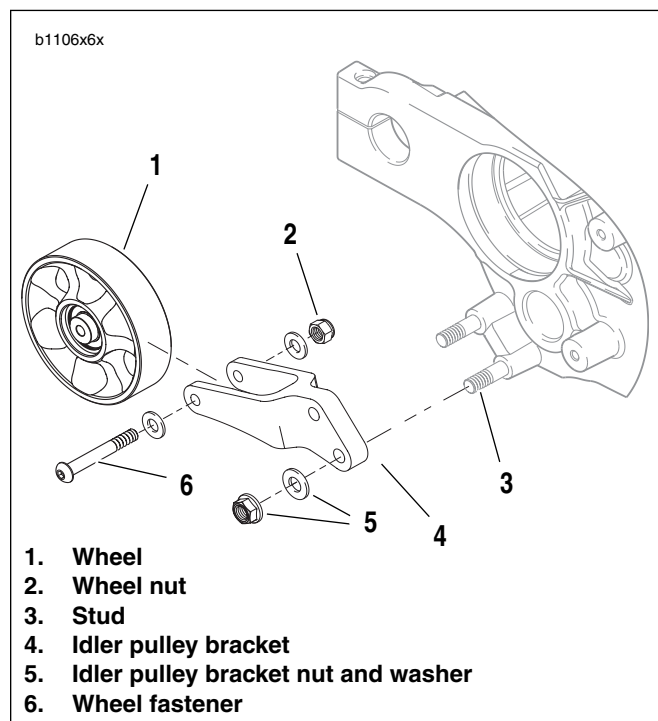

Figure 6-44. Idler Pulley Assembly
5. See Figure 6-44. Remove idler pulley bracket nuts and washers (5) from studs (3).
6. Slide idler pulley bracket (4) off studs (3).
7. See Figure 6-44. Inspect pulley by spinning wheel (1) and checking for wheel bearing wear. See INSPECTION under 1.10 DRIVE BELT.
8. If pulley wheel needs replacement, remove fastener (6), washer and nut (2) from idler pulley bracket (4) and discard wheel. Replace with **new** pulley wheel (1).
1. See Figure 6-44. Install new or existing pulley wheel (1), if removed, and tighten washer and nut (2) wheel fastener (6) to 20-23 ft-lbs (27.1-31.2 Nm).
2. Slide idler pulley bracket (4), washer and nuts (5) on to studs (3) and tighten to 33-35 ft-lbs (45-47 Nm). sssss-See DRIVE BELT INSTALLATION.